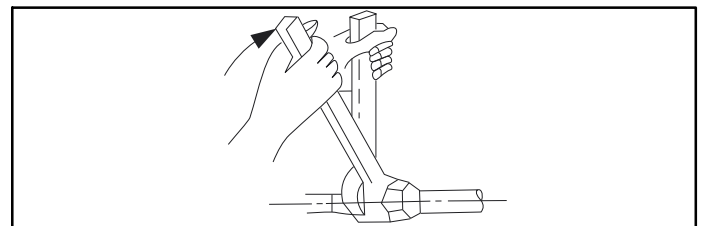

Figure 6 – Tighten Flare Nut
10. Connect refrigerant piping and drain line outside of indoor unit. Refer to Figure 6 for proper installation of flare connections. Complete pipe insulation at flare connection then fasten piping and wiring to the wall as required. Completely seal the hole in the wall.